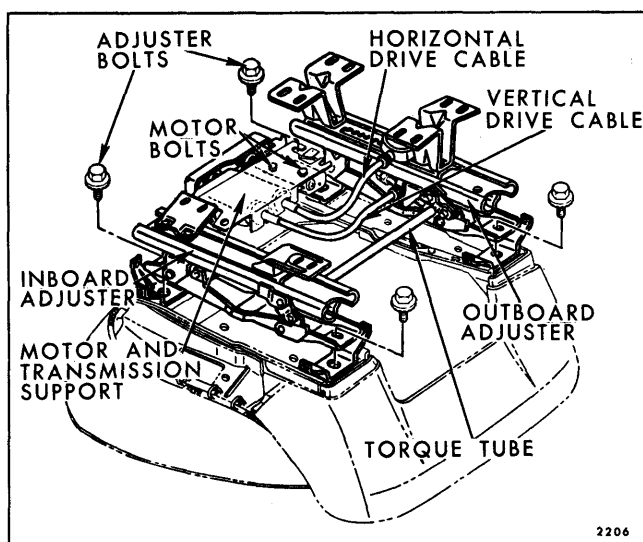

Fig. 15-45—Four-Way Bucket Seat Assembly
3. If outboard adjuster is being removed, disconnect both, horizontal and vertical, drive cables from vertical gearnut and horizontal actuator (Fig. 15-45).
5. Remove adjuster-to-seat bottom frame front and rear attaching bolts securing adjuster to be removed (Fig. 15-45).
2. Disengage torque tube from outboard adjuster (Fig. 15-45 and 15-46) and remove torque tube assembly.